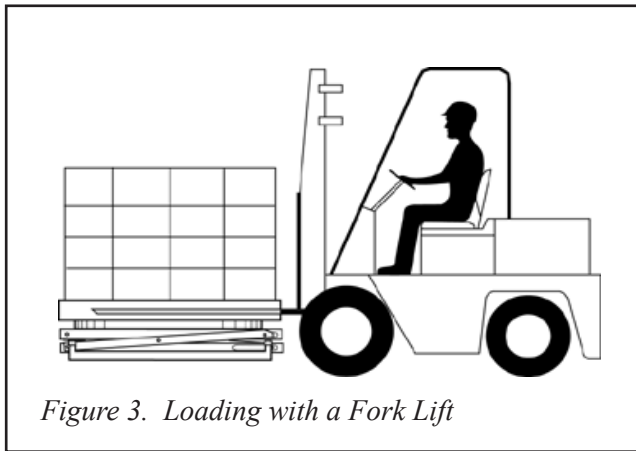

Figure 3. Loading with a Fork Lift
- Place the load on the lift, then lower the fork lift. Before removing the load, be sure the unit is carrying the weight, not the fork lift. See Figure 3.